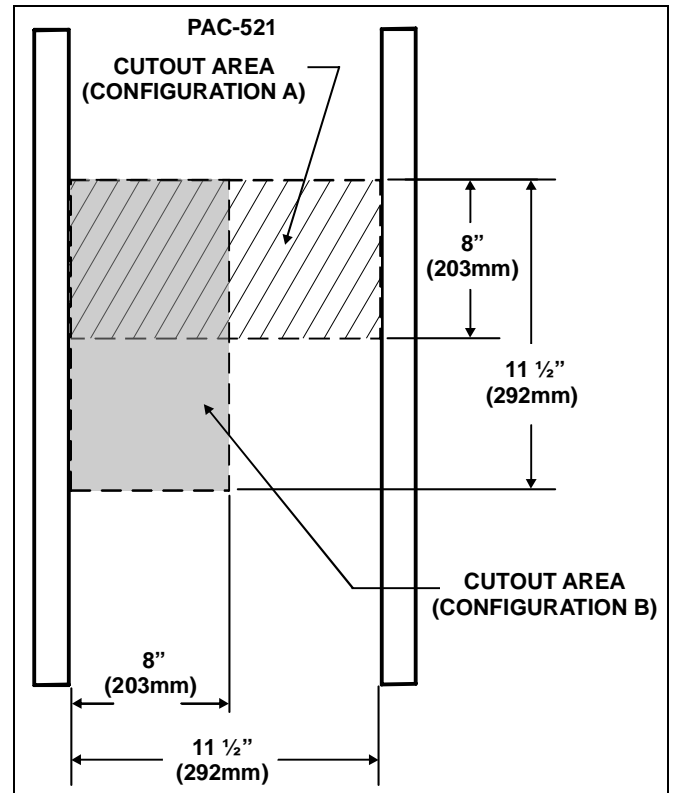

Figure 1
5. Measure the marked area and compare to the dimensions shown in Figure 1. If measurements match continue to step 6. If not, adjust markings to match dimensions in Figure 1.